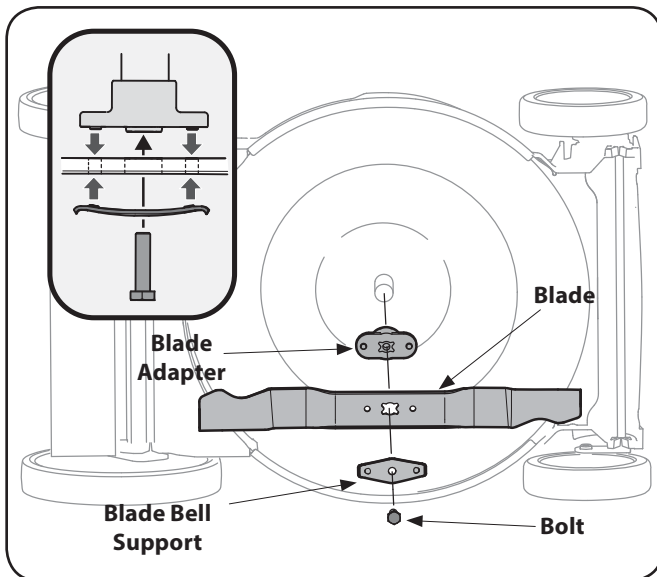

Figure 7-1
2. Remove the bolt and the blade bell support which hold the blade and the blade adapter to the engine crankshaft. See Figure 7-1.
3. Remove blade and adapter from the crankshaft. See Figure 7-1.
crankshaft. Place the blade on the adapter such that the side of the blade marked "Bottom" (or with part number) faces the ground when the mower is in the operating position. Make sure that the blade is aligned and seated on the blade adapter flanges. See Figure 7-1 inset.